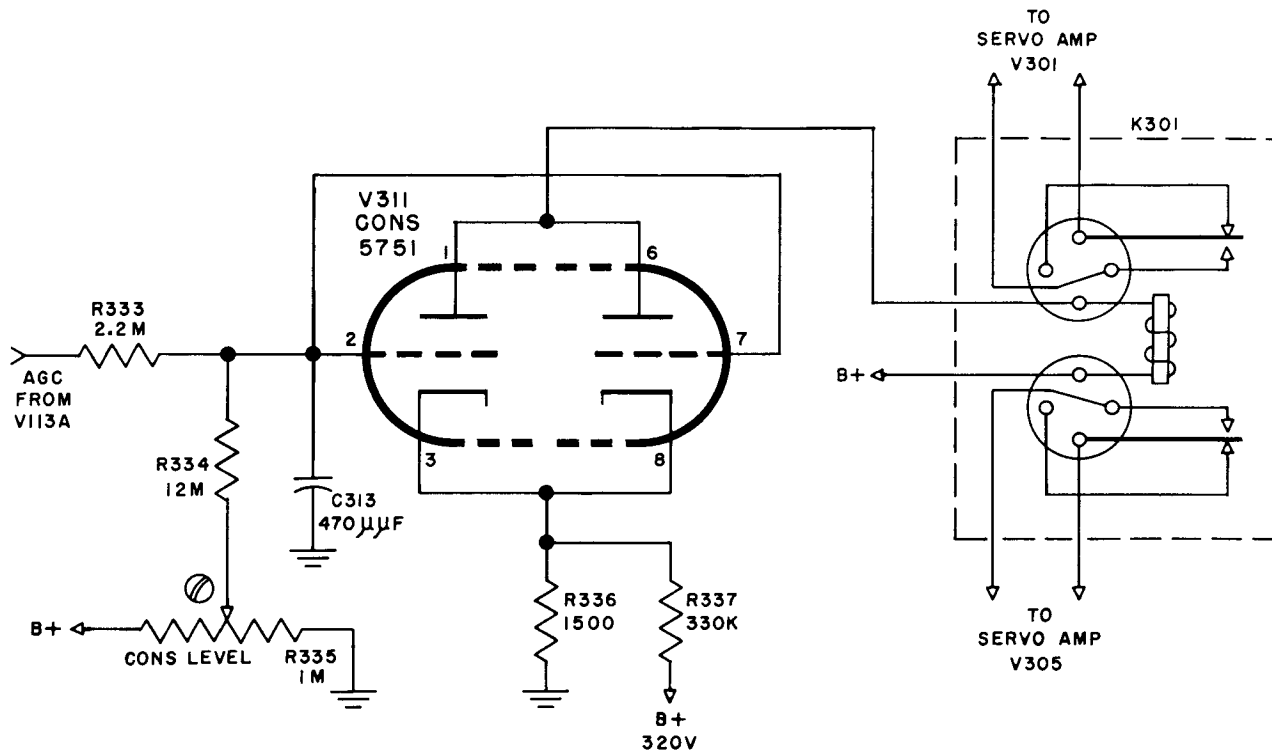

Figure 2-18. CONS V311, Simplified Schematic Diagram
j. CARRIER-OPERATED NOISE SILENCER V311 (CONS). (See Figure 2-18.)—The purpose of the carrier-operated noise silencer V311 is to activate relay K301, which shorts the motor circuit input leads when the carrier drops to a level insufficient for proper limiting and control. This operation prevents random running of the motors by noise when the carrier drops below the noise level. If the motors are allowed to be run by random noise pulses, they may change the tuning oscillator frequency to values which will produce a carrier IF outside the passband of the carrier filter.